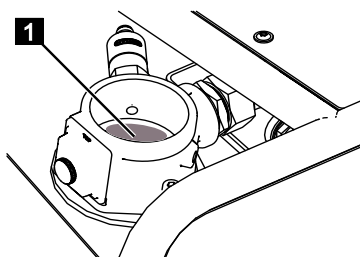

Fig. 248
4. Remove the filter insert (Fig.248/1) and insert a new filter insert.